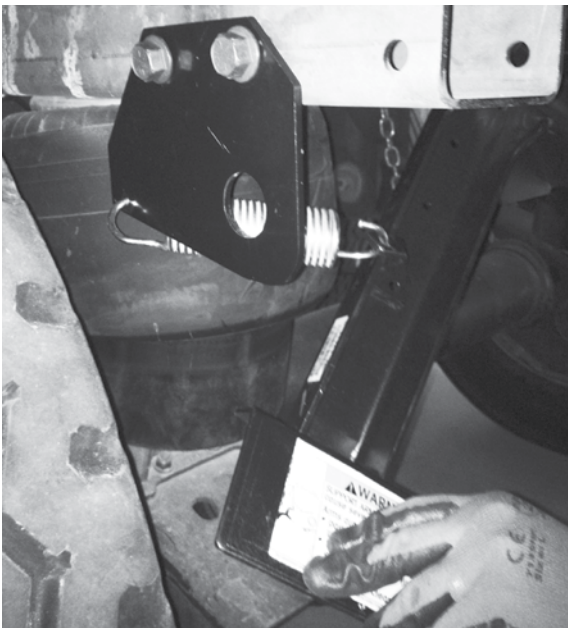

Figure 35: Arm raised above rail for spring installation
4. Lift roadside end of the support arm assembly, with attached spring, to roadside shaft bracket (Figure 35) and insert the other end of spring into spring hole of the roadside bracket.
NOTE: To gain access and attach the spring in Step 4, the top of the roadside arm on the support arm assembly (Figure 35) must be raised up above and inward of the side rail.